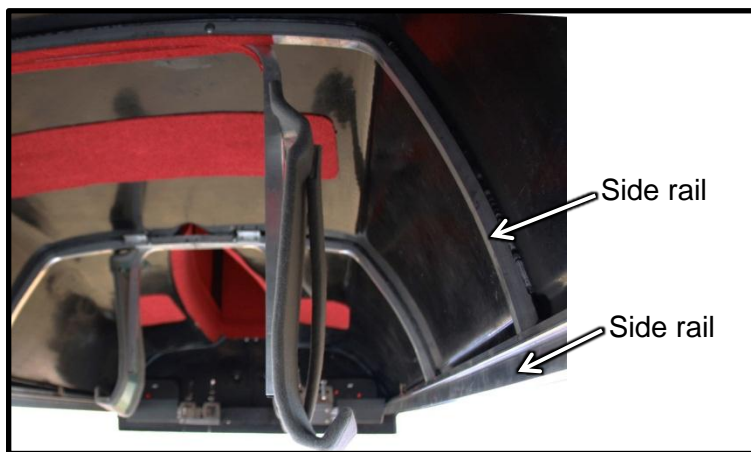

Figure 6
3.1.2. Rivet strut to the side rail of the canopy. 1 rivet on either side. (see Figure 6).